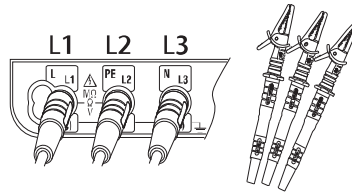

Fig. 43
2. Insert the Test Leads into the instrument. (Fig.43)